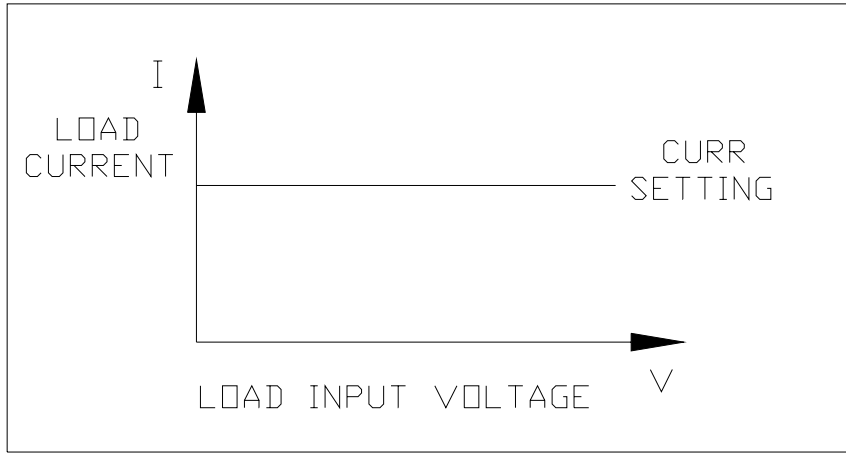

Figure 3-3 Constant Current Mode
In CC mode, two operation functions (STATIC, DYNAMIC) may be selected. The STATIC function checks the stability of the output voltage from a power supply. In some modules, (single channel/module) there are two current levels (A or B) for the static function. Both states A and B use the same range. The user can select A (CCL1 or CCH1) or B (CCL2 or CCH2) through the **A/B** key on the module's keypad or the mainframe keypad when level1 (A) or level2 (B) changes. Slew rate determines the rate at which the load level changes from one level to the other. Figure 3-3 shows the current level of the load module after pressing of **A/B** key.